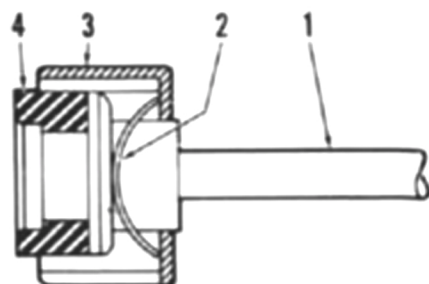

Fig. 157 - Cross-sectional view showing the seal installed on valve stem.
When installing valve seal (14), the smallest diameter is to be installed first on the head of valve stem (13). Also refer to Fig. 157 for installing valve seal.